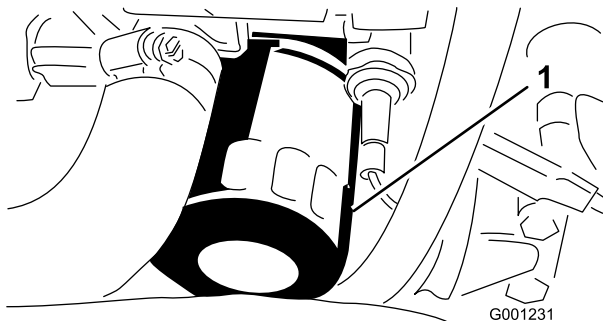

Figure 53
6. Remove and replace the oil filter (Figure 53).